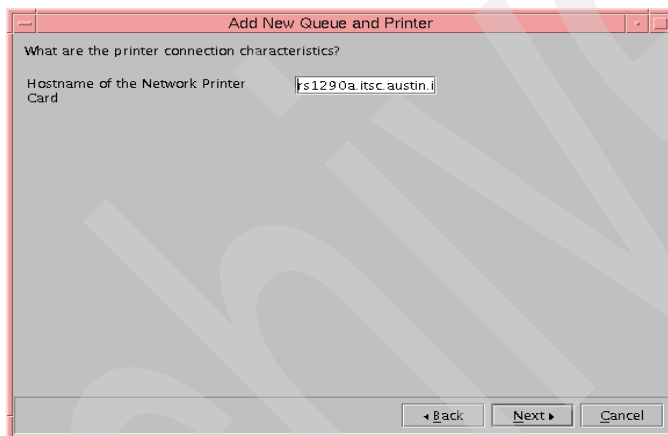

Figure 88. IBM Network Printer hostname
9. We provided the hostname of the IBM Network Printer and clicked **Next**, as shown in Figure 88.